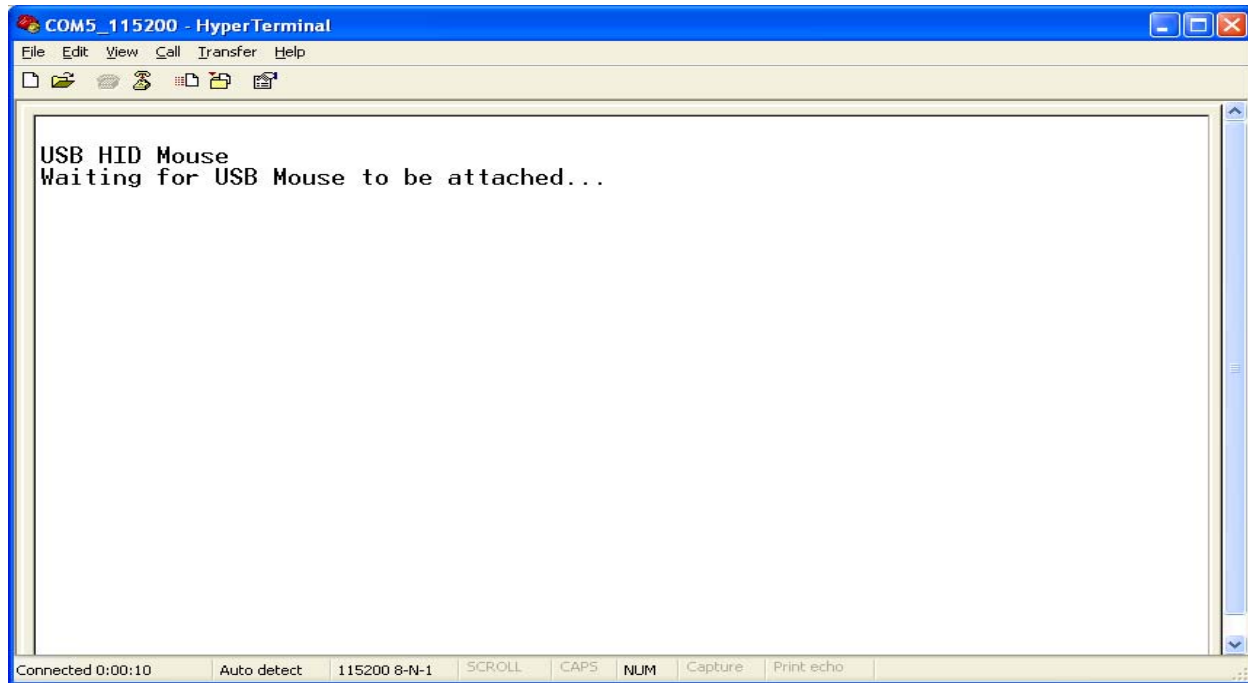

Figure B-2. The USB Host is waiting the mouse attachment event
2. After the image has been loaded successfully, the Hyperterminal appears as Figure B-2: